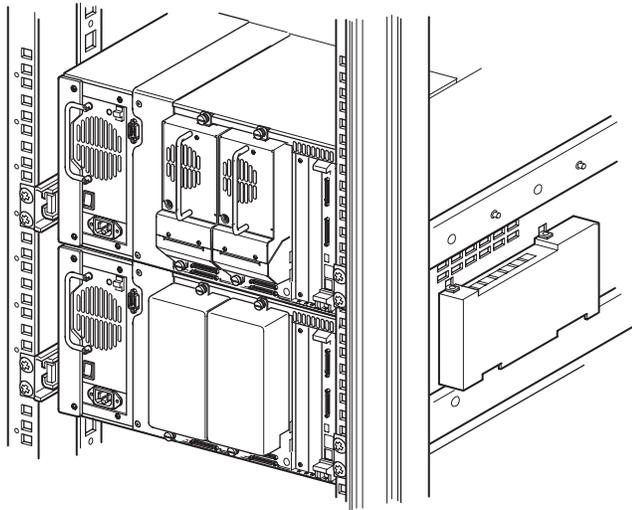

Figure 2–3: MSL5026 library installation
2. Remove the blank panel or drive shoe assembly 1 from the bay adjacent to the PTM cover plate opening (see Figure 2–4).